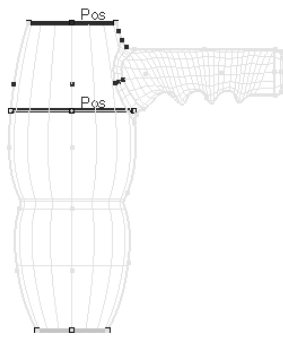

Figure 11-86 Highlighted constraints with the continuity labels
5. Choose the **Accept Constraints** button; the selected constraints are highlighted in red with the continuity label displayed on them, as shown in Figure 11-86. Also, the **Go** button is displayed at the lower right corner of the active window.